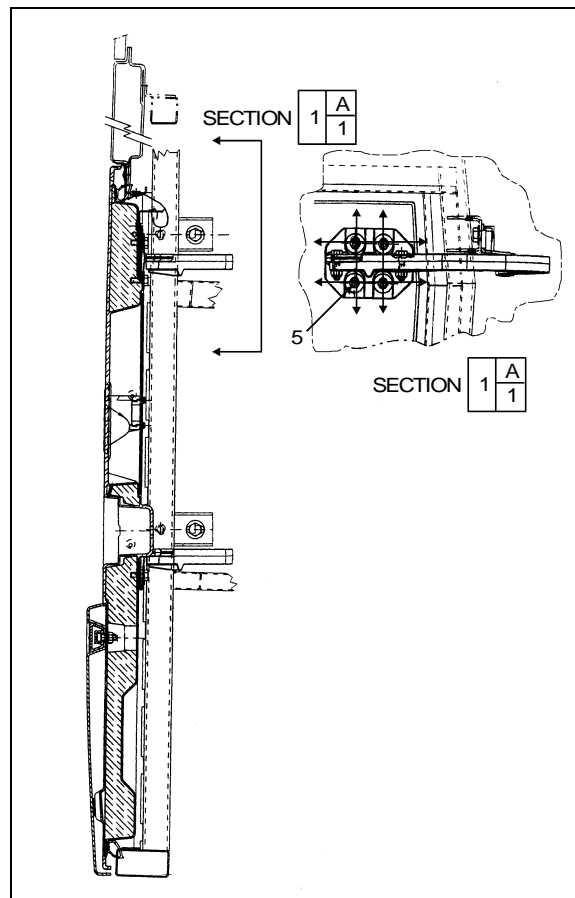

FIGURE 72: FRONT SERVICE DOOR
2. Loosen nut (2, Fig. 72).
3. Move part (1, Fig. 72), as close as possible to exterior of coach, so as to have enough clearance for proper door opening.
4. Tighten nut (2, Fig. 72).
5. Loosen nut (3, Fig. 72). Hinge allows the door to be shifted "IN or OUT".
6. Adjust door panel to have the same gap space as neighboring panels or refer to figure 52 for specified gap space. Only if necessary, use the adjustment allowed by moving part 1, Fig. 72.